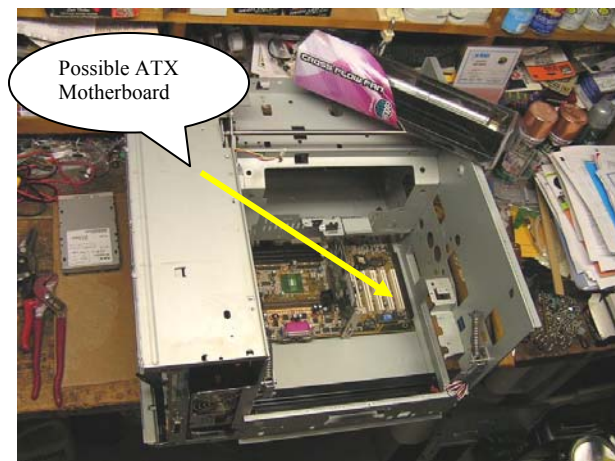

Figure 3 Open cavity showing placement of example ATX motherboard
Solution: Initially, I did not decide which motherboard types would be available or what would be purchased, but I elected to mount one motherboard (A) in the bottom cavity, and mount the second motherboard (B) to the top section, underneath the paper output tray. See figures 3 and 4 for reference. Realistically, motherboard B needed to be a micro-ATX size, but motherboard A could have been a regular ATX form factor size.